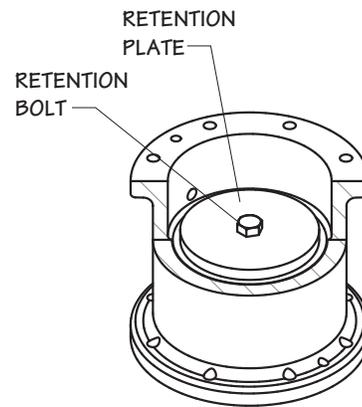

Figure 1 Retention Plate Assembly
4. **Figure 1** illustrates proper retention plate and hardware installation. The retention plate is designed to allow clearance for the fan shaft key, and when properly installed will not extend over or interfere with the key in any way. Torque the retention bolts to 70 ft·lb_f (95 N·m).